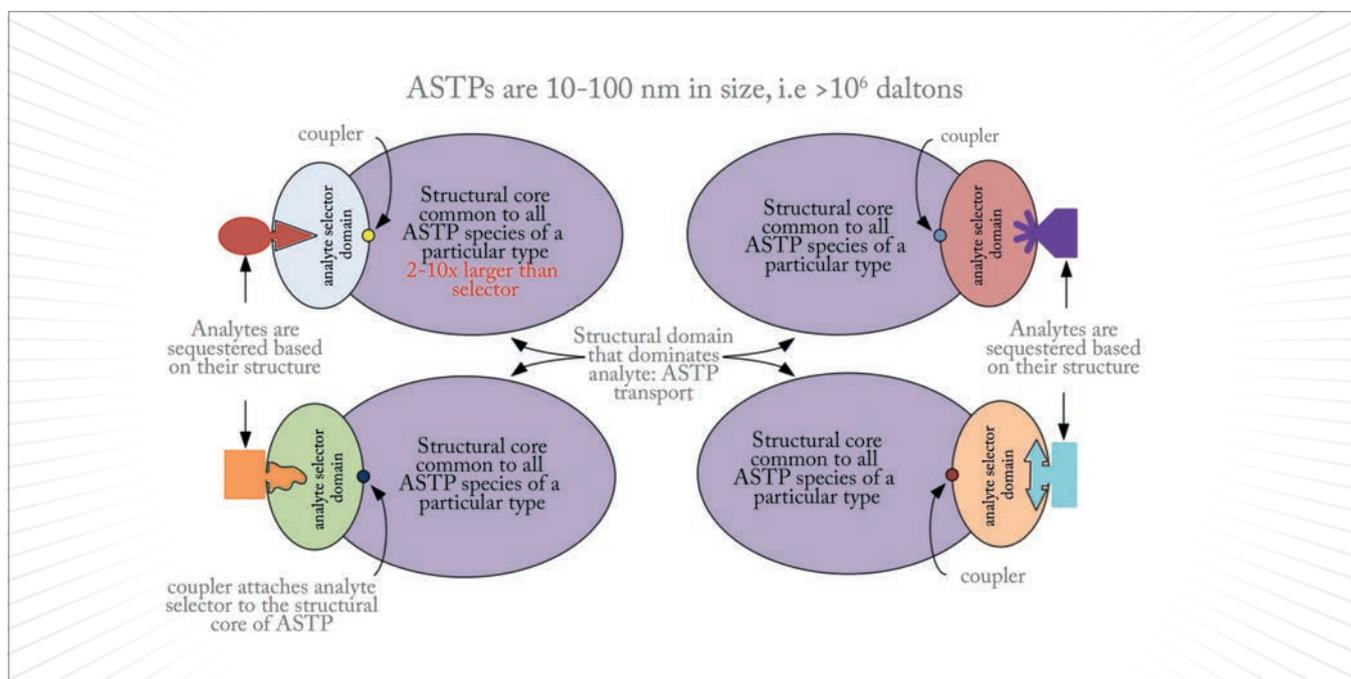

Figure 4. An illustration of the components in an analyte sequestering transport particle (ASTP).
The P_t used in our early MASC experiments is composed of 20-80 nm hydrocolloids with coupled affinity selectors. These analyte-sequestering transport particles (ASTPs) are larger than most substances in plasma while being sufficiently small to pass readily between the particles in a size exclusion chromatography (SEC) column or restricted access media (RAM) system. Single-structure specific-affinity selectors (S_a) were a component of each ASTP (see Figure 4) and, in our early studies, were antibodies (Ab) with an analyte association constant typically exceeding 106. Subsequent to association with the Ab, analytes are transported through MASC columns without desorption from the ASTP (4).